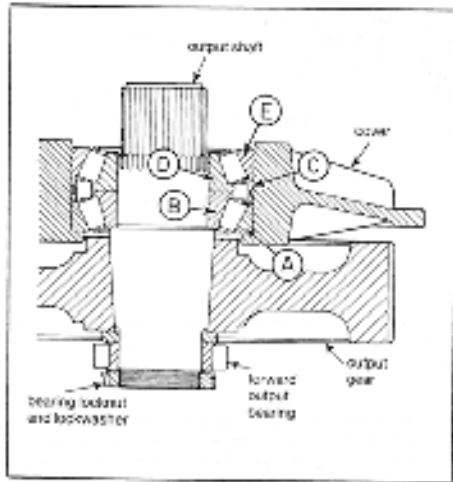

Fig. 36. Sub-assembly including output gear and shaft, cover and bearings.
2. Install first bearing cup (A) into output bore of housing cover, making sure cup seats in bore. See fig 36.
4. Install heated bearing cone (B) onto the shaft and into cup. Install bearing spacer (C) and install second bearing cone (D) onto output shaft. Install second bearing cup (E) into cover. See fig 36.